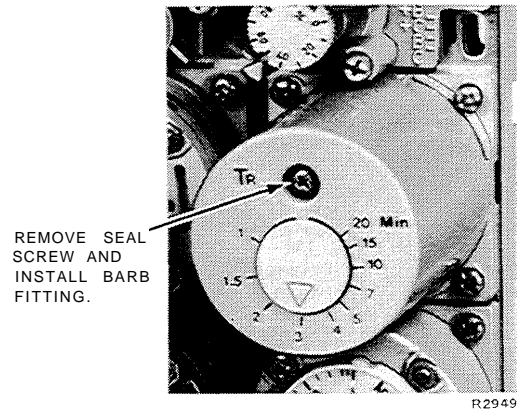

Fig. 12. Integral Module.
1. Remove and save the screw from the RP920C or D integral module (Fig. 12) and install Barb Fitting 14003755-001 in its place.